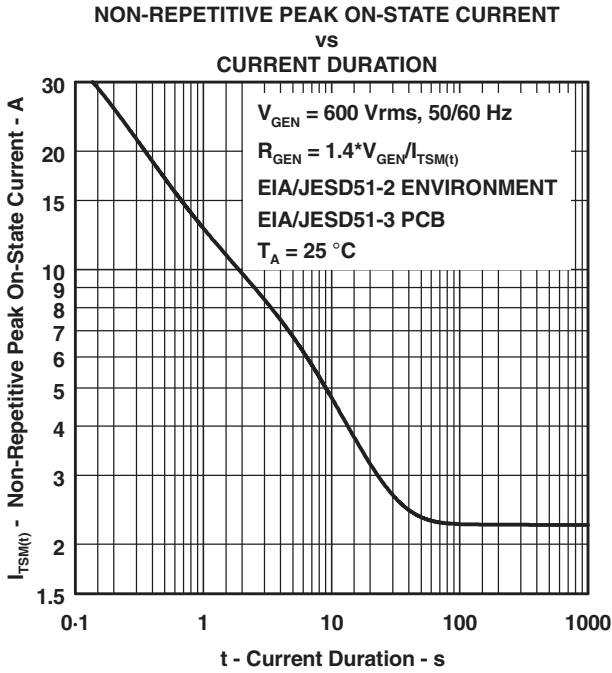

Figure 8.
5. EIA/JESD51-2 environment and EIA/JESD51-3 PCB with standard footprint dimensions connected with 5 A rated printed wiring track widths. See Figure 8 for the current ratings at other durations. Derate current values at  $-0.61\%/\text{C}$  for ambient temperatures above  $25^\circ\text{C}$ .
The protector can withstand currents applied for times not exceeding those shown in Figure 8. Currents that exceed these times must be terminated or reduced to avoid protector failure. Fuses, PTC (Positive Temperature Coefficient) resistors and fusible resistors are overcurrent protection devices which can be used to reduce the current flow. Protective fuses may range from a few hundred milliamperes to one ampere. In some cases, it may be necessary to add some extra series resistance to prevent the fuse opening during impulse testing. The current versus time characteristic of the overcurrent protector must be below the line shown in Figure 8. In some cases, there may be a further time limit imposed by the test standard (e.g. UL 1459 wiring simulator failure).